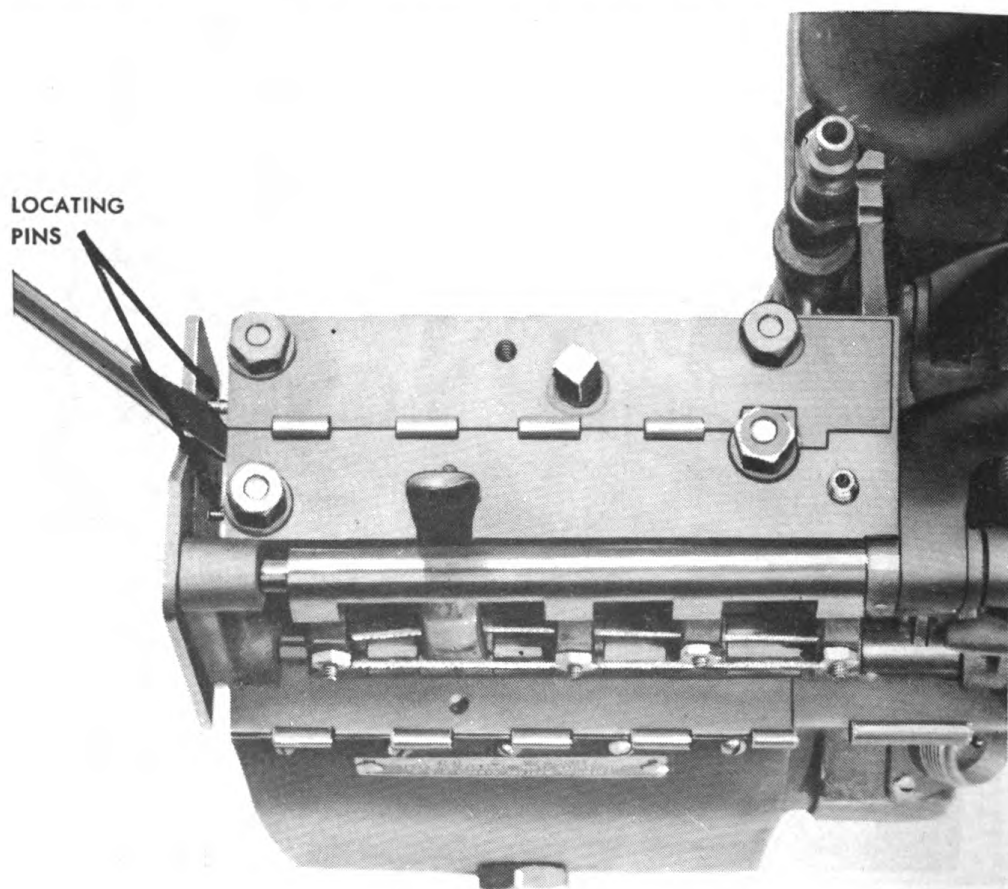

Fig. 104. Prying off end plate.
- Pry off the end plate (fig. 104).